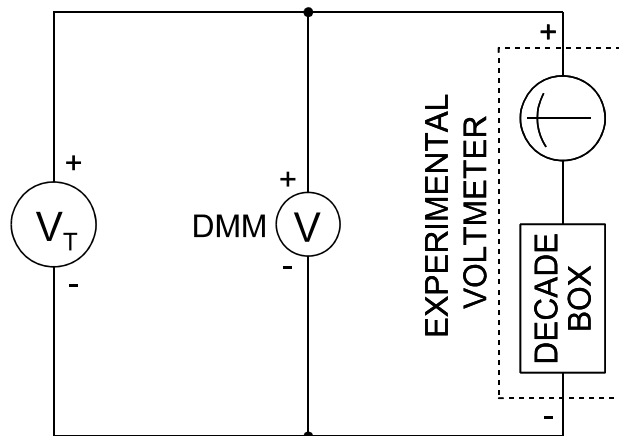
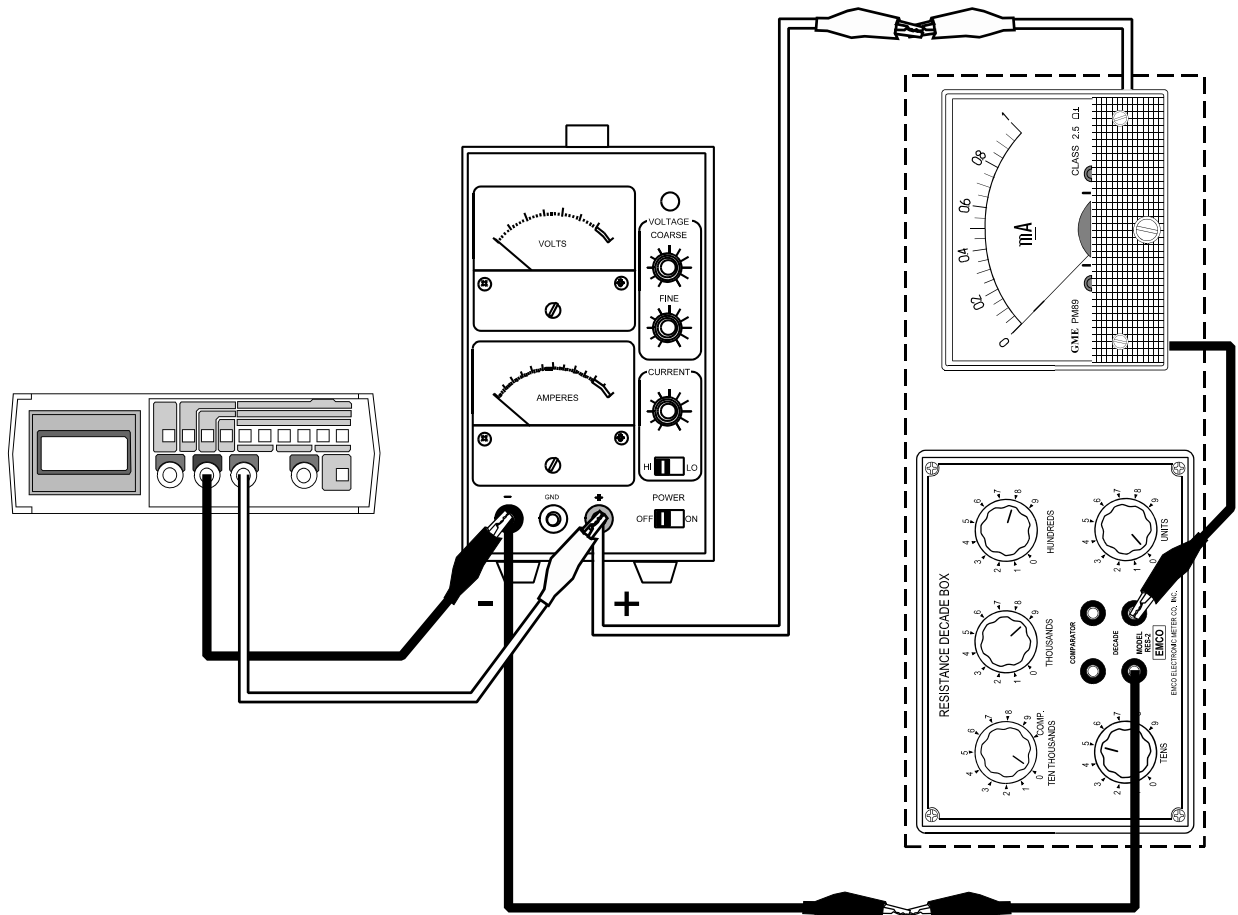

Figure 8-7
Figure 8-8
- A8. Construct the circuit shown in Figure 8-7 or the pictorial shown in Figure 8-8 to evaluate your experimental voltmeter.